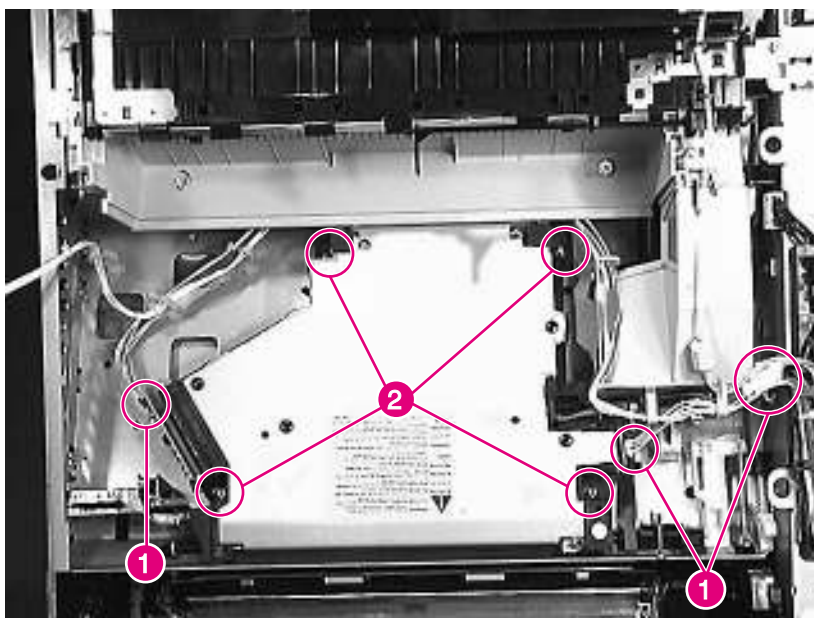

Figure 6-37 Laser/Scanner Assembly
- 3 Unplug three cable connectors (figure 6-37, callout 1).
- 5 Remove 4 screws (figure 6-37, callout 2).